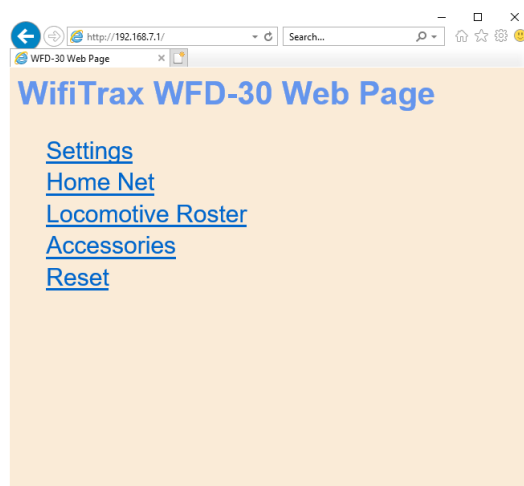

Figure 27 The WFD-30 Web Setup Main Menu
- (1) Tap the “three dots” icon at the top right of the screen and select Web in the menu. You should now see the Web Setup Main Menu as in Figure 27. You can click or tap on any of the headings in the menu to access the setup for that feature. The section “Setup Advanced Features using a Browser” provides information about all of the menu options.
- (2) You now should see the WiThrottle Address page. At the bottom there should be four tabs Throttle, Address (highlighted in blue), WebServer and Settings. Tap on the WebServer tab and you should now see the Web Setup Main Menu as in Figure 27. You can click or tap on any of the headings in the menu to access the setup for that feature. The section “Setup Advanced Features using a Browser” provides information about all of the menu options. Note that WiThrottle Lite does not have this WebServer tab so if you are using the Lite version you will have to use Safari as described in the section “Setup Advanced Features using a Browser”
- (4) You should now see the Web Setup Main Menu as in Figure 27. You can click or tap on any of the headings in the menu to access the setup for that feature.
To modify General Settings, tap the Settings heading in Figure 27.
To change to Home Net mode, tap the Home Net heading in Figure 27.